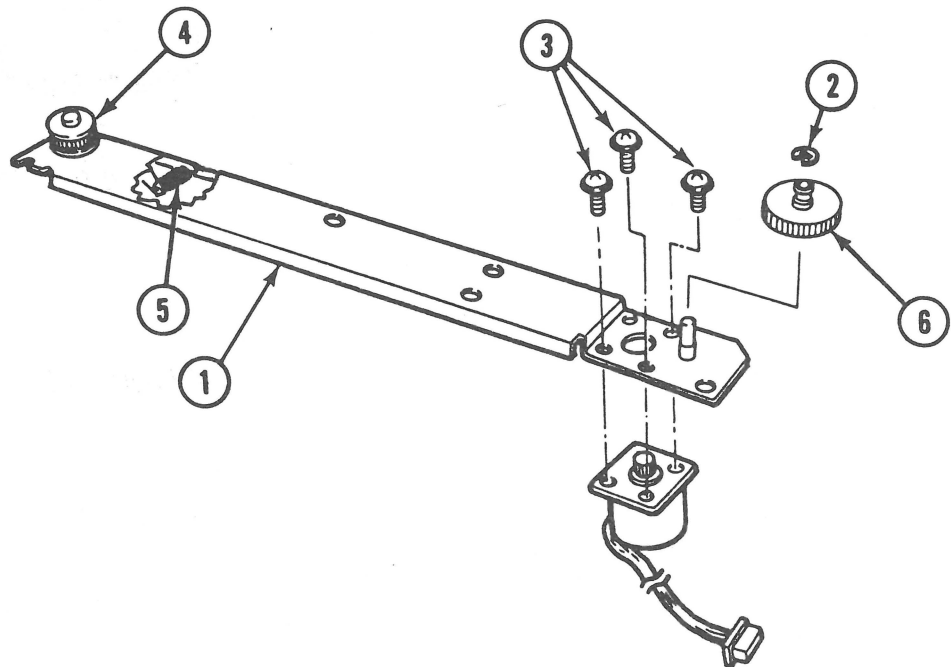

FIGURE 22
8. Remove the pulley and carrier motor plate assembly (Figure 22, #1) by lifting them out of the bottom case.
9. Using a jeweler's screwdriver, remove the E-clip and washer (Figure 22, #2) from the gear pulley and pull off the gear pulley.
10. Remove the three screws (Figure 22, #3) that hold the carrier motor to the carrier plate assembly and remove the motor.
Note: You can also remove the pulley at this time by removing the large E-clip (Figure 22, #4), and pulling off the pulley. Also, if the pulley tension spring (Figure 22, #5) needs to be replaced, you can reach it on the bottom of the pulley bracket.
1. Place the motor on the underside of the carrier plate so that the wires face toward the front of the case. Attach the motor with the three screws (Figure 22, #3). Tighten the screws.
2. Place the gear pulley (Figure 22, #6) on its shaft and make sure that the gear on the pulley engages with the gear on the motor shaft.